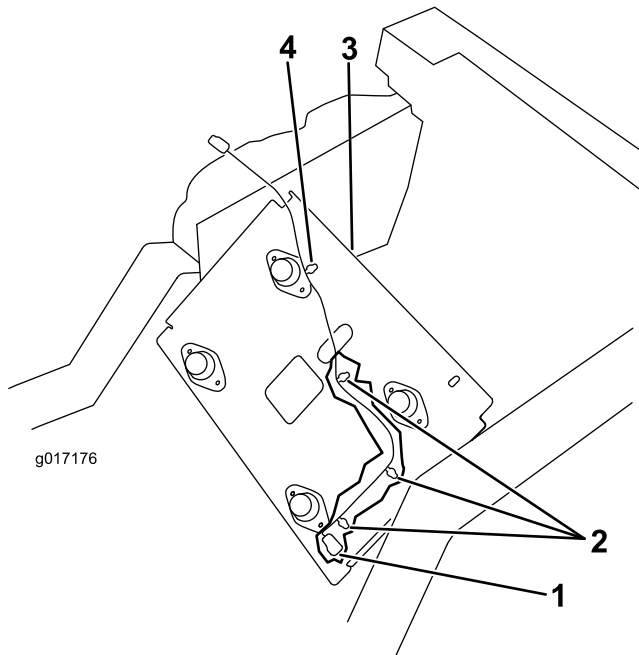

Figure 6
5. Route the harness up through the hole in the seat base and insert the remaining harness clip into the hole in the seat base (Figure 6).